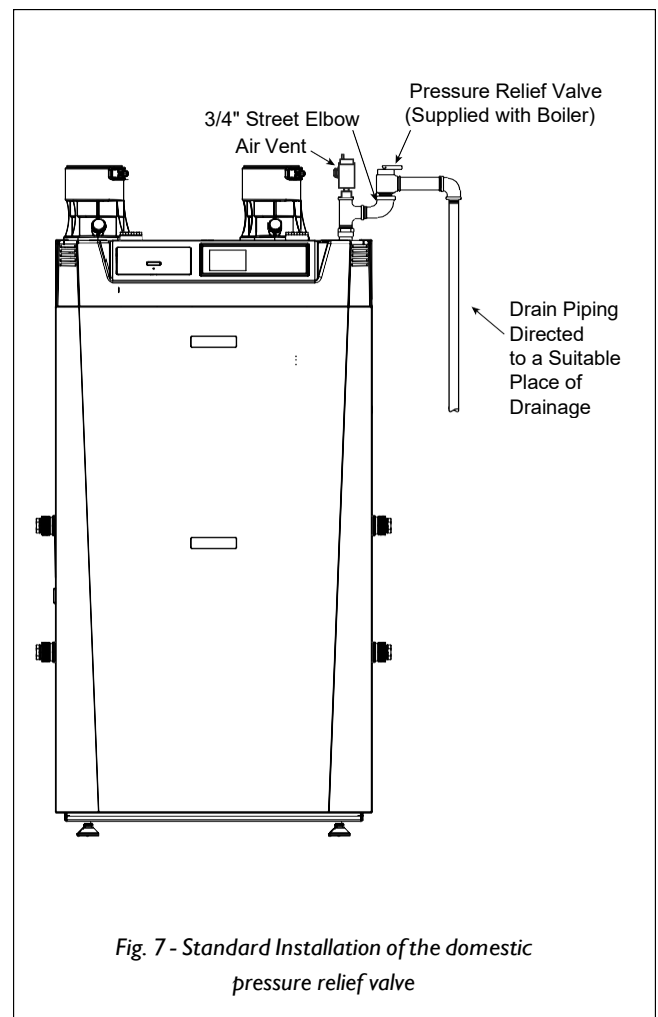

Fig. 7 - Standard Installation of the domestic pressure relief valve
1. The Instinct FSB is supplied with a 30 psi pressure relief valve and must be piped using the PRV connection as shown in Fig. 7 below.